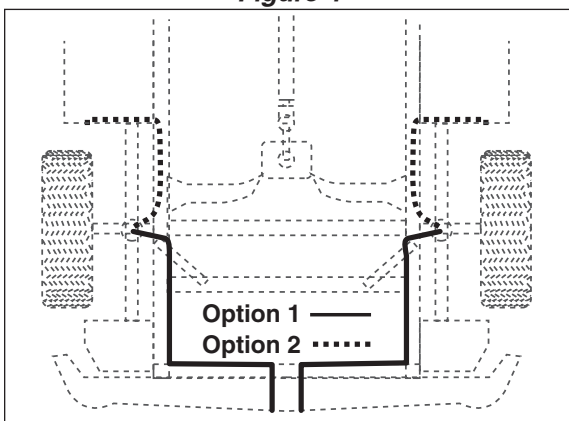
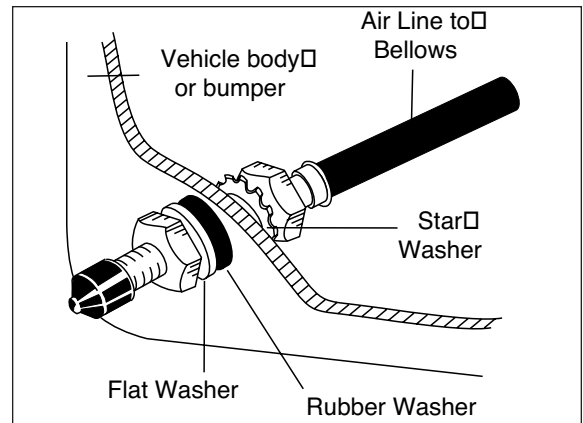

Figure 5
Figure 6
- Select a location for the inflation valves in the rear bumper area or rocker panel flange ensuring that each valve will be protected and accessible with an air hose (Figure 5). Drill a 5/16" hole for the inflation valve and mount as illustrated. The outer rubber washer is used as a weather seal (Figure 6).